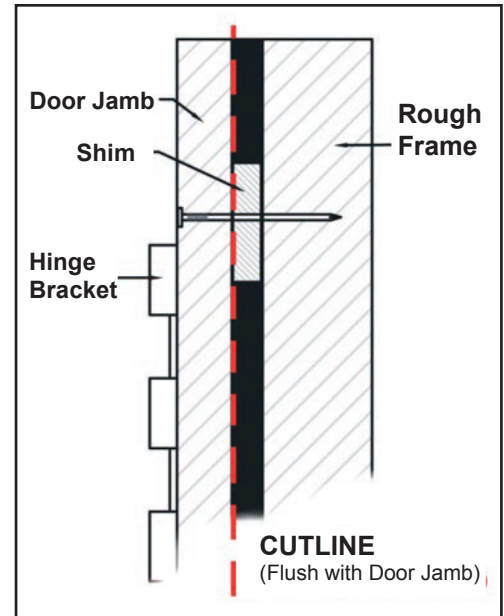

FIG. HS-01
2. Starting with the top hinge, remove or cut all bolts that penetrate farther than the door jamb. Then, using a saw with a metal cutting blade, preferably a handheld reciprocating saw, cut any other hardware that is attaching the door jamb to the rough frame and will interfere with the positioning of the Hinge Shield. **It is extremely important that any attaching hardware between the door jamb and the rough frame be cut flush with the door jamb (FIG. HS-01). Failure to do so could hinder proper placement of the Hinge Shield components.**